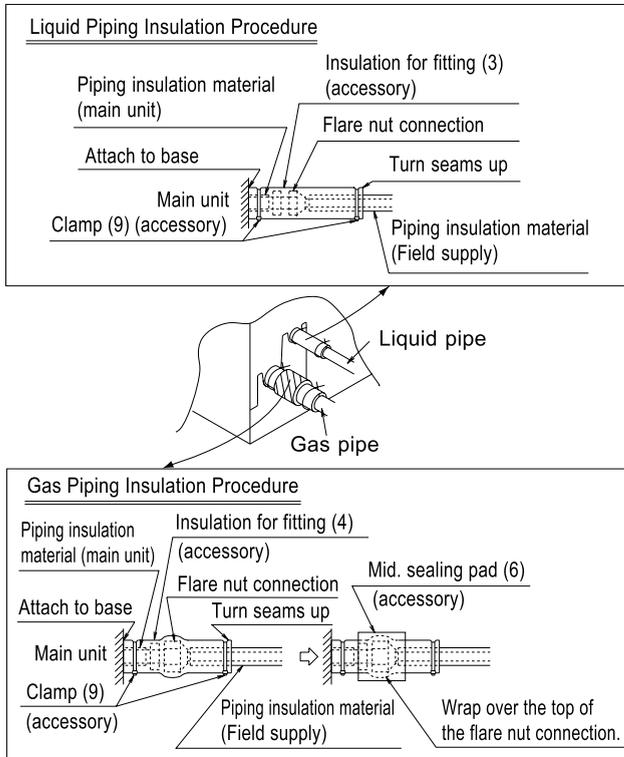

Fig. 8
(2) After the work is finished, make sure to check that there is no gas leak.
(3) After checking for gas leaks, be sure to insulate the pipe connections referring to Fig. 8.
- Insulate using the insulation for fitting (3) (4) included with the liquid and gas pipes. Besides, make sure the insulation for fitting (3) (4) on the liquid and gas piping has its seams facing up.